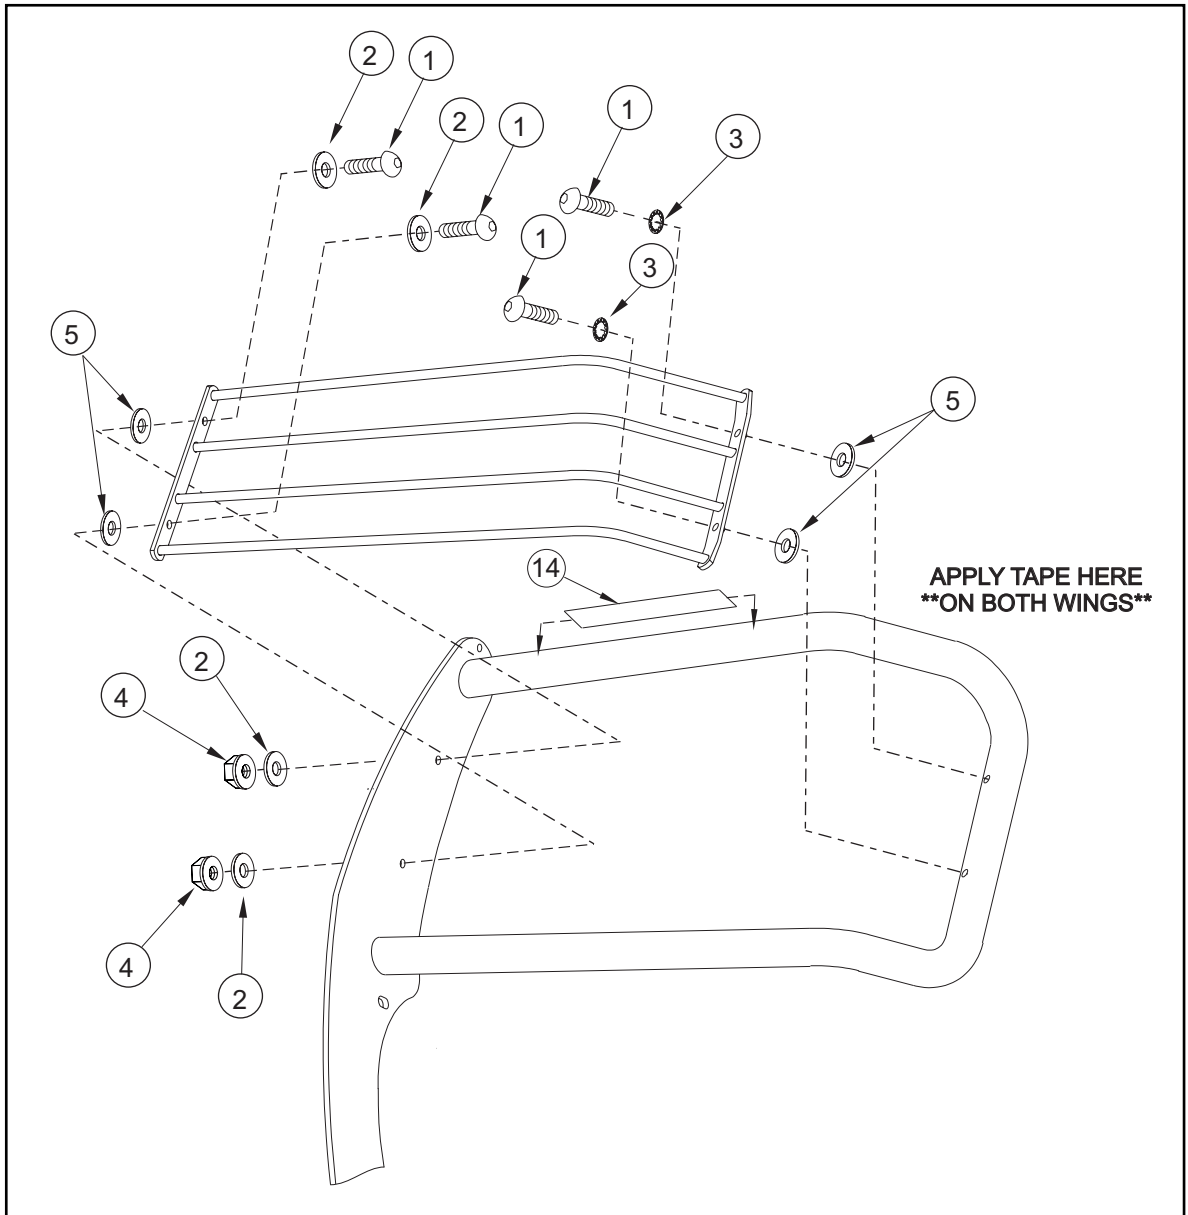

FIGURE 1
- STEP 2. Attach light guard assemblies as shown. **SEE FIGURE 1.**
- STEP 6. FOR CHROME ASSEMBLIES ONLY. If light glare is being experienced off the wings of the Sportsman, anti reflective tape has been supplied to reduce glare. With headlights on, note where the reflection is concentrated on the wing. Clean the wing well with a non-abrasive cleaner (rubbing alcohol works the best.) Trim the anti-reflective tape to the appropriate size where the glare was located and apply tape. **SEE FIGURE 1.**